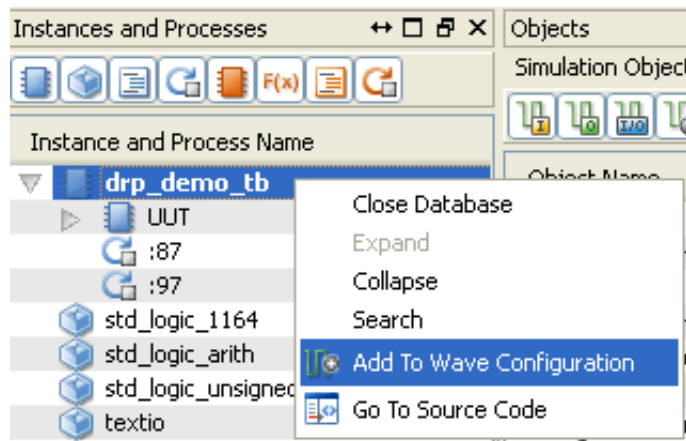

Figure 4-10: Add to Wave Configuration
1. Right-click on the **drp\_demo\_tb** instance unit, in the Instances and Processes panel. (Refer to Figure 4-10.)